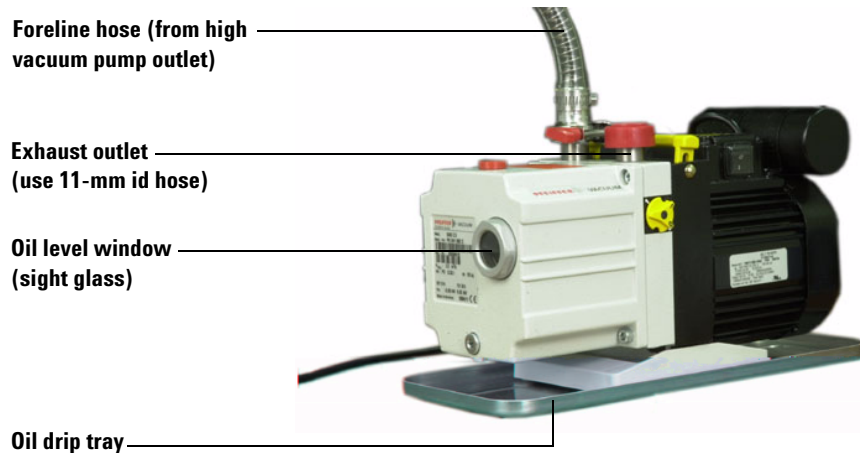

Figure 5 Preparing the vacuum system
- 4 Place the oil drip pan under the foreline pump as shown in Figure 5.